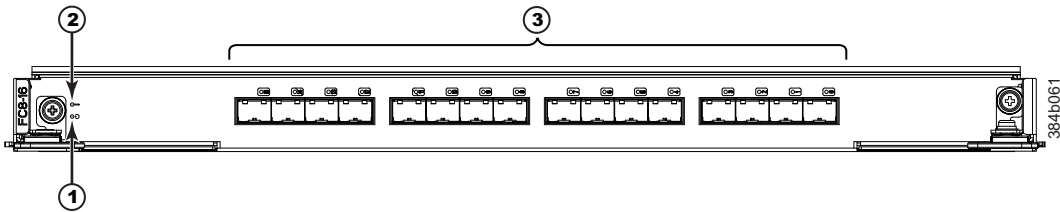

Figure 55. FC8-16 port blade
- Figure 55 shows an FC8-16 port blade